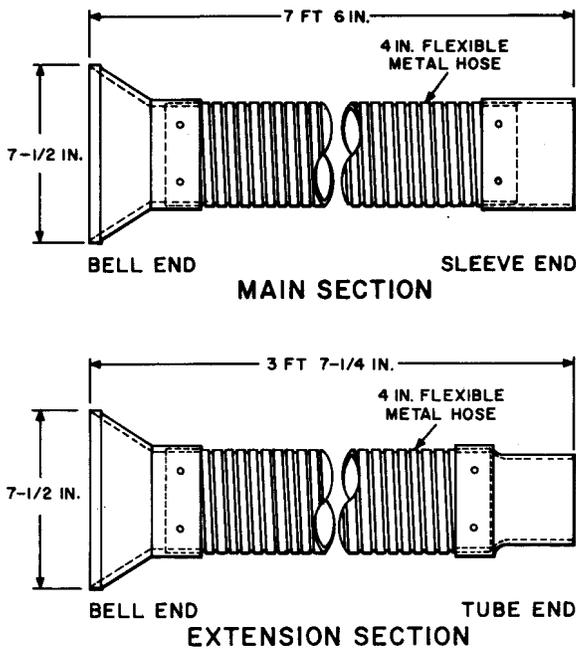

Fig. 1—Cable Feeder—Main and Extension Sections
2.01 The flexible metal hose cable feeder (Fig. 1) consists of a main section, an extension section, a 3-inch nozzle, and a 3-1/2 inch nozzle. A 3-1/2 inch S nozzle, a 4-inch nozzle, a 4-inch high strength HS nozzle, and a 4-inch S nozzle are available as optional parts of the cable feeder and must be ordered separately.